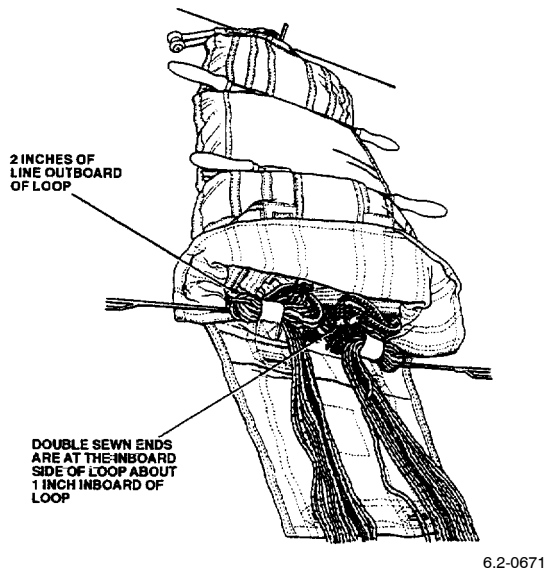

Figure 21. Suspension Lines Stowed in Elastic Loops
j. Pass a stowage hook thru the RH elastic loop from outboard to inboard, form a bight in the RH suspension lines and pull the bight thru the elastic loop from inboard to outboard. Make sure that about 2 in. of lines are outboard of the loop and that the double sewn ends are about 1-in. inboard of the loop (Figure 21). (QA)